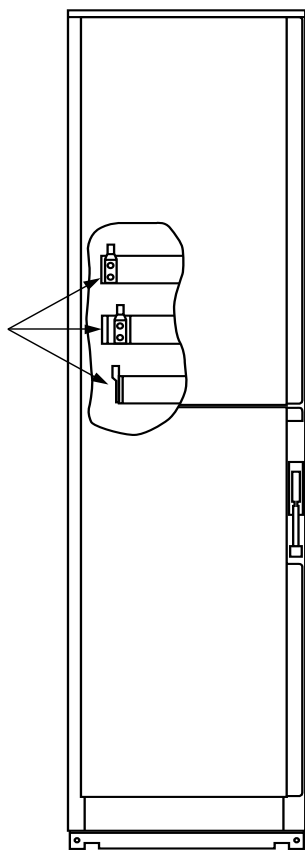

Figure 4 Line Cable Terminations – Single Controller
1. Terminate line cable on terminals (Fig. 4, item A) for top cable entry. For bottom cable entry, the cable terminations are reversed.